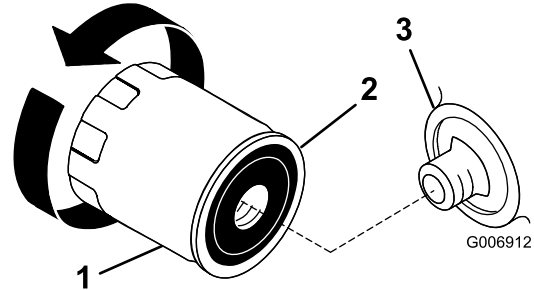

Figure 20
2. Remove the old oil filter and wipe the filter adapter (Figure 20) gasket surface.
3. Apply a thin coat of new oil to the rubber gasket on the new oil filter (Figure 20).
5. Turn the oil filter clockwise until the rubber gasket contacts the filter adapter, then tighten the oil filter an additional 1/2 to 3/4 turn (Figure 20).